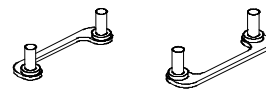

Figure 2-1-2
- RM Attach Mount (RMAM) - Bolt/Bridge assemblies inserted up through the bottom of the mainboard. Then secures the RM to RMAM (two RMAM required per RM). (Refer to Figure 2-1-2)